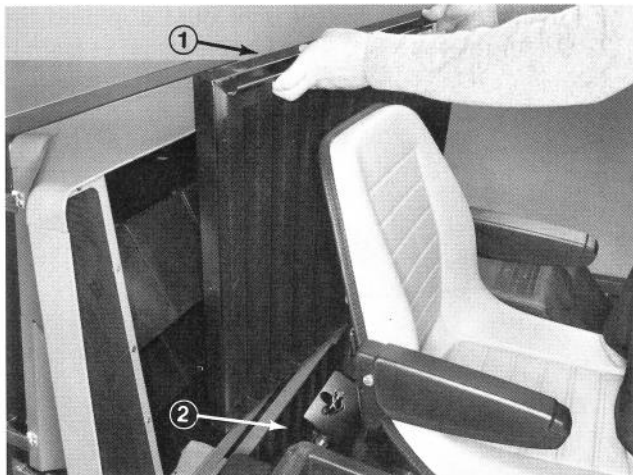

Figure 36
- b. Remove upper and lower grille assemblies (Fig. 36).